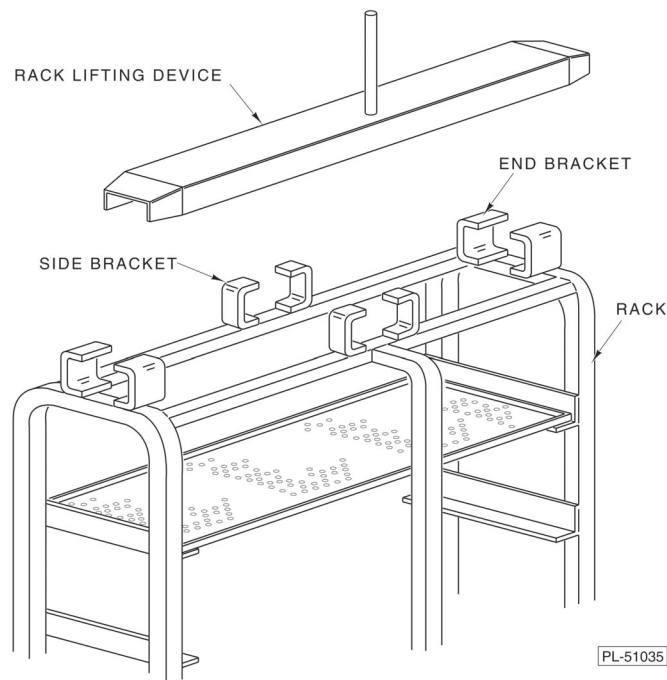

Fig. 1
1. Roll the rack into the oven so the End Brackets channel onto the Rack Lifting Device (Fig. 1).
**1. Roll the first rack into the oven so the Side Brackets channel onto the Rack Lifting Device (Fig.1). Close the door and press JOG. The rack turns around to the next load-unload position, then stops.**
2. Open the door and roll the second rack into the oven so the Side Brackets channel onto the Rack Lifting Device (Fig.1).